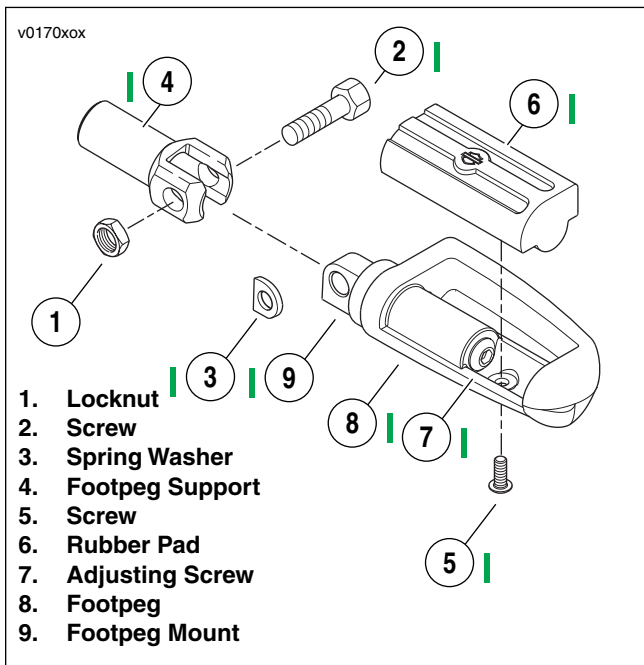

Figure 2-32. Footpeg Assembly (typical)
2. See Figure 2-32. Remove screw (5) and rubber pad (6) from foot peg (8).
1. See Figure 2-32. Loosen and remove screw (2) and locknut (1) and spring washer (3).